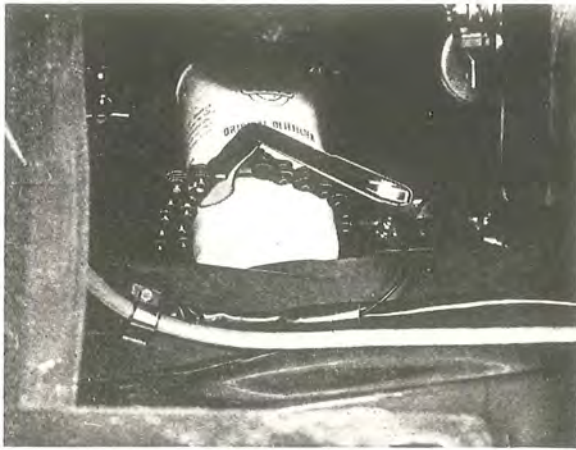

Fig. 2-43. Removing the oil filter
1. Remove the old filter with the help of chain tongs, see Fig. 2-43.